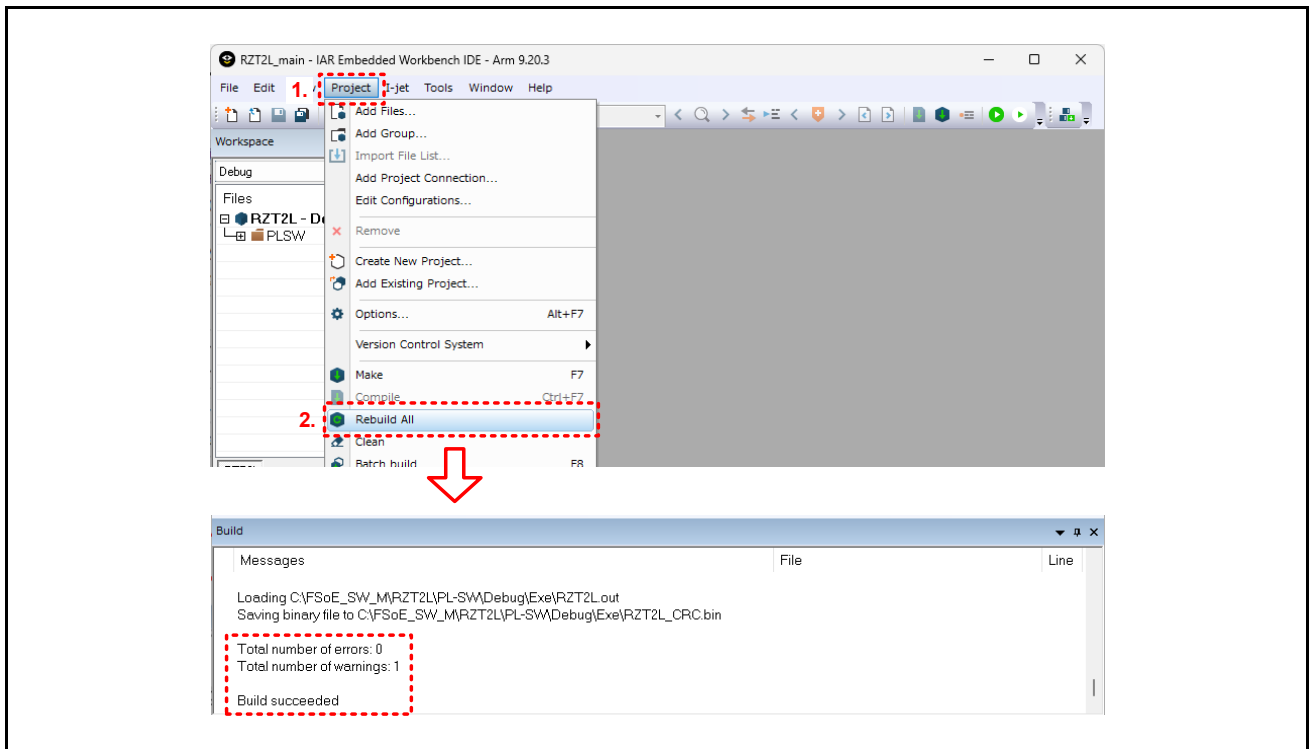

Figure 5.2 Building the Project
- 1) Select [Project] > [Rebuild All] to run a build. (Figure 5.2, #1 #2)